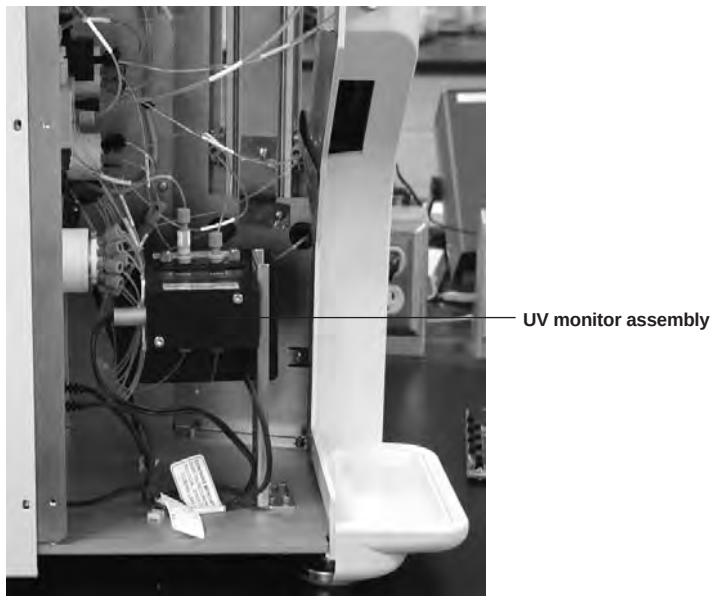

Fig. 13.13. UV monitor assembly.
2. Locate the UV monitor assembly (Figure 13.13).
The Profinia UV flow cells are located inside the instrument cabinet, in the UV monitor assembly (Figure 13.13). To inspect or replace the flow cell: